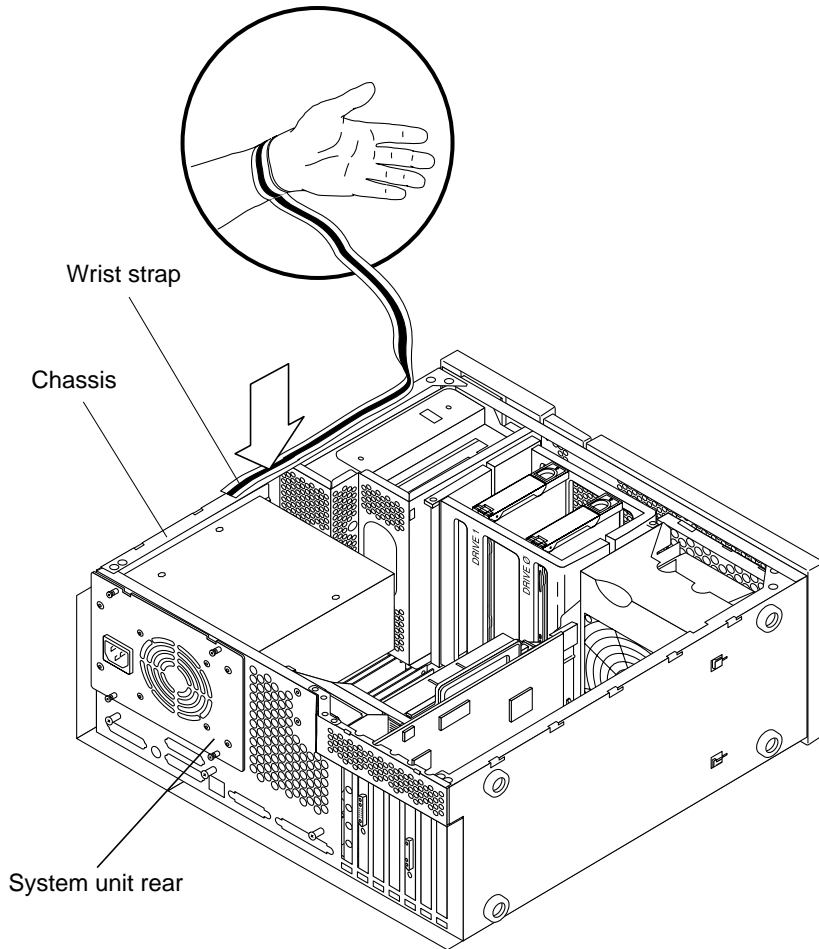

FIGURE 7-3 Attaching the Wrist Strap
3. **Attach the copper end of the wrist strap to the chassis (FIGURE 7-3).**